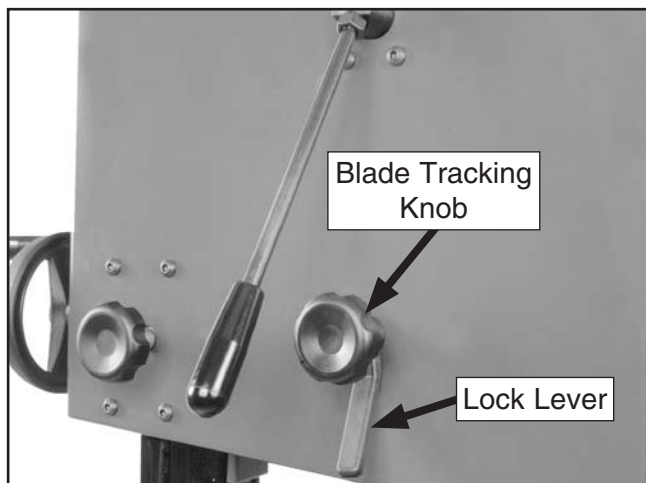

Figure 37. Blade tracking controls.
6. Loosen the lock lever on the back of the bandsaw (see **Figure 37**) so that the blade tracking knob can rotate.